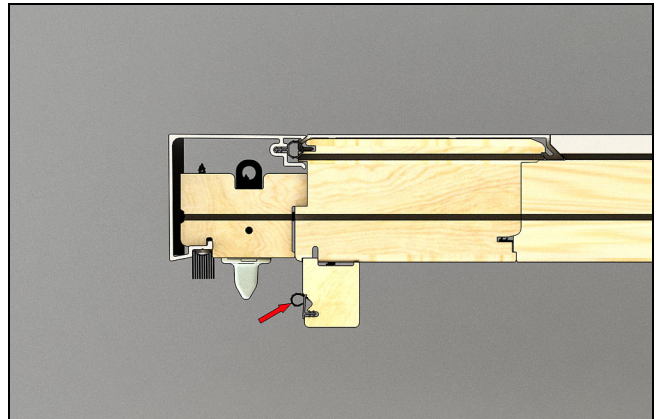

Figure 23
3. Install the weather strip into the corner cover kerf. See Figure 23.